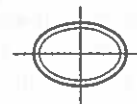

Fig.11
- The pipe to be machined should be cut at right angles without any step difference, and the pipe used should be free of deformation. If the cut surface is tilted and has a step difference or the pipe is deformed, it cannot be machined to the correct groove size. (See Fig. 11)